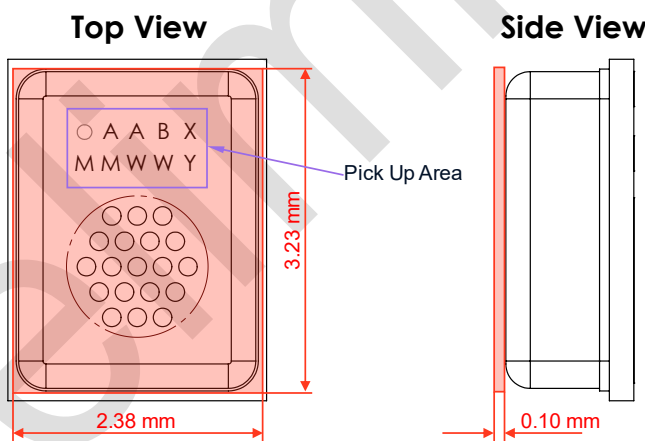

Figure 8.6: Mechanical drawing with protective tape
- Use the pick-up area shown in Figure 8.6.